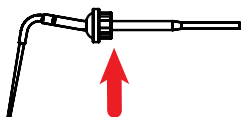
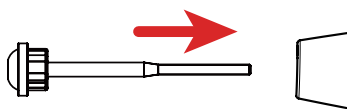

Figure 6 Work Tip
Figure 7 Installation of Work Tip
3. Select the desired Work Tip and the hexagonal plug on the Work Tip (as indicated by the red arrow in Figure 6). When installing the Work Tip as shown in Figure 7, you can select the appropriate direction according to the usage to insert the Work Tip into the Heating and Packing Instrument.